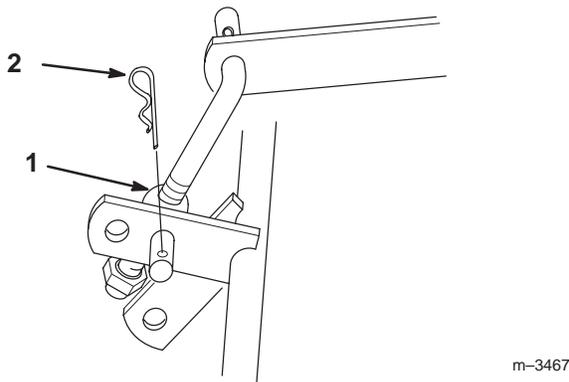

Figure 3
1. Place adjustable link trunnion into rear wheel shaft bracket and secure with hairpin cotter (Fig. 3).